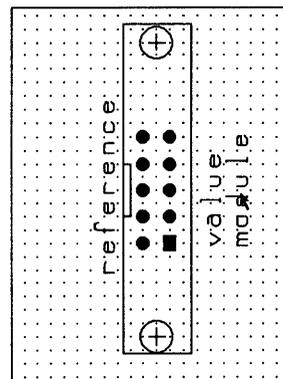

Figure 5-9. The module rotated 90° .
4. Select **OK**. The module displays rotated 90° counterclockwise, as shown in figure 5-9. The module rotates using the pointer position as its pivot point.